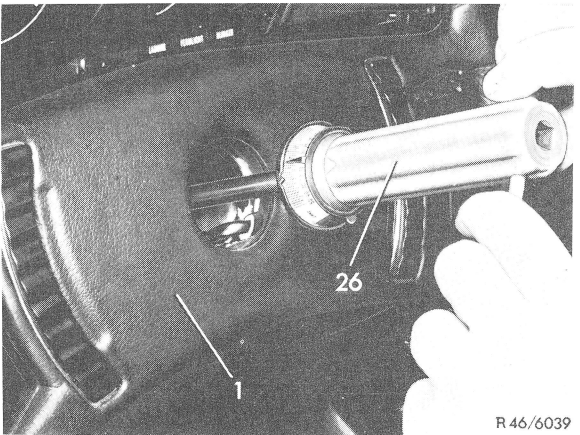

Fig. 2 1 Steering wheel 26 Torque wrench
4 If the torque wrench (26) is used for measuring manual restriction, remove company symbol from steering wheel with a small screw driver. Then place torque wrench against hex. nut of steering spindle and measure the force required for turning the steering spindle, which should not exceed 600–800 Ncm (60–80 kpcm) (fig. 2).